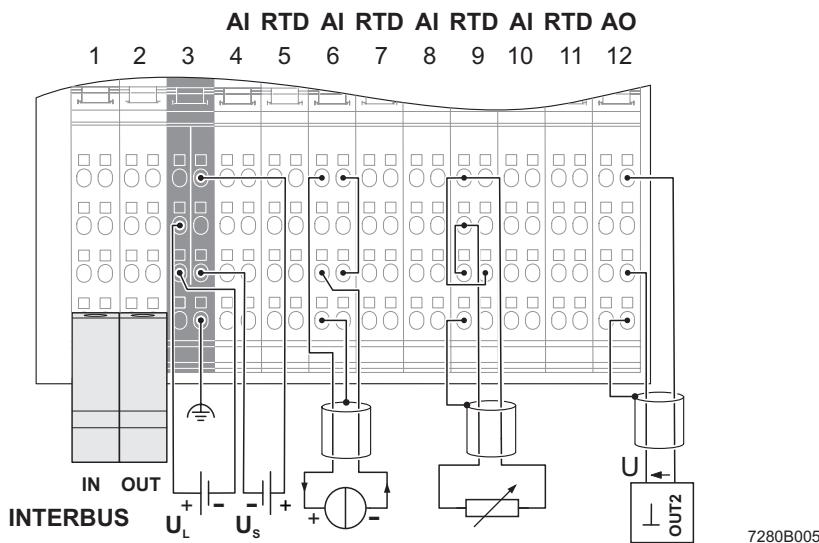

Figure 6 General connection example
**To ensure reliable functional earth grounding of the module even when the DIN rail is dirty or the metal clip is damaged, always ground the module via the FE terminal point (see Figure 6).**